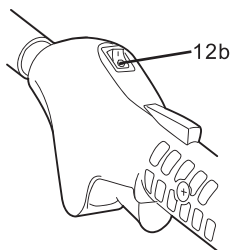

Fig. 12a
- > Set the ignition switch (12b) to the "I" position (Fig. 12a).
- > Set the ignition switch (12b) to the “I” position (Fig. 12a).